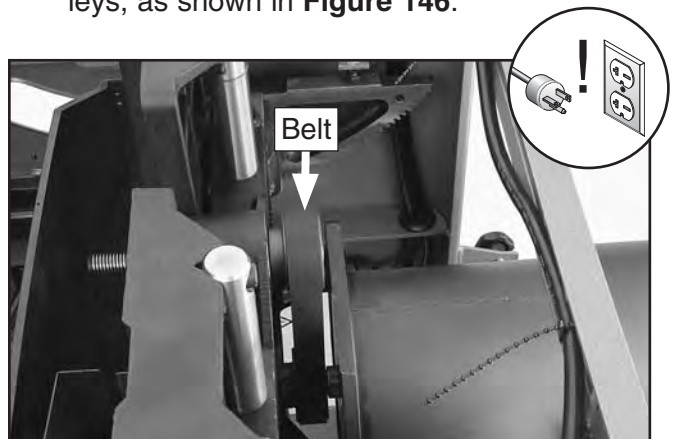

Figure 146. Belt installed (table removed for clarity.)
9. Push the belt inward and roll it onto the top pulley. Continue pushing the belt and rotating it up and down until it is centered on both pulleys, as shown in **Figure 146**.